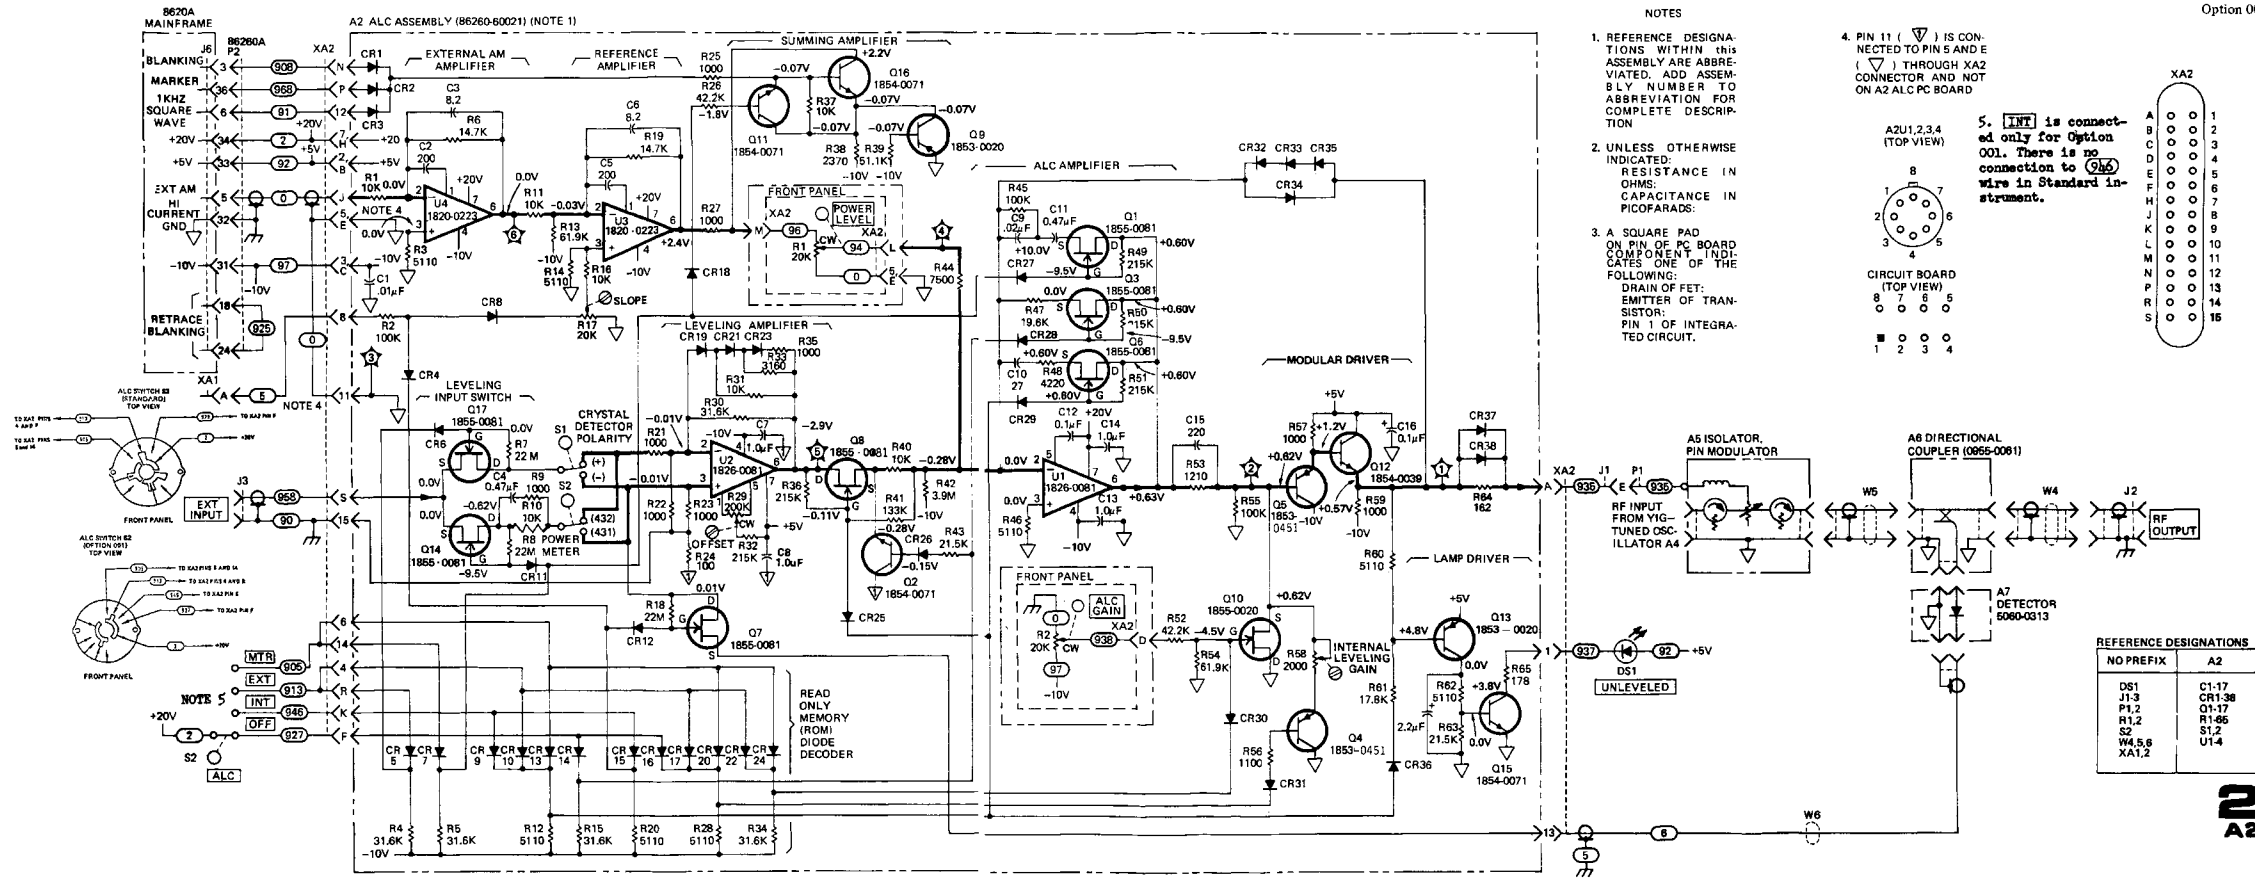

Figure 9-7. A2 ALC Assembly, Schematic
- Replace Figure 8-8 with Figure 9-7.